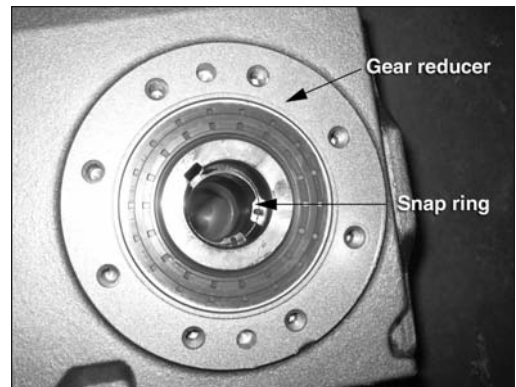

Figure 1
**IMPORTANT: The snap ring inside the gear reducer hollow bore must be installed in the groove at the opposite end from the flange. Snap ring pliers can be used to remove and/or install snap ring. The snap ring is designed as a stop for the agitator shaft. Without the snap ring properly installed, incorrect compression of the spring and improper alignment of the O-rings will occur, which may result in severe damage. If the snap ring is missing, contact Mueller before installing the agitator assembly. DO NOT RUN THE AGITATOR WITHOUT THE SNAP RING IN PLACE. See Figure 1.**